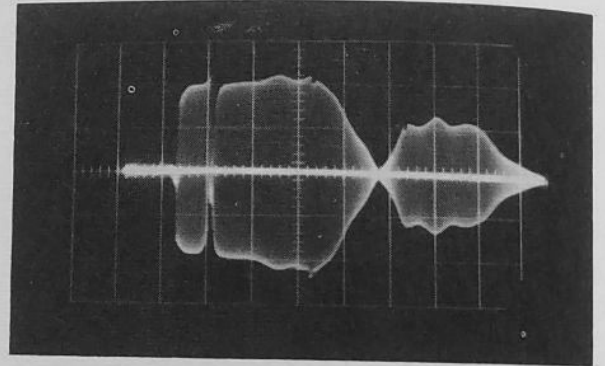

Figure 27. Input, Video Input 2J13. Output at Junction of 2R134, 2R135, and 2R136. Marker on 2 mc.
25. The response will be narrow band as shown in Figure 27. (Notch at 3.58 mc.)